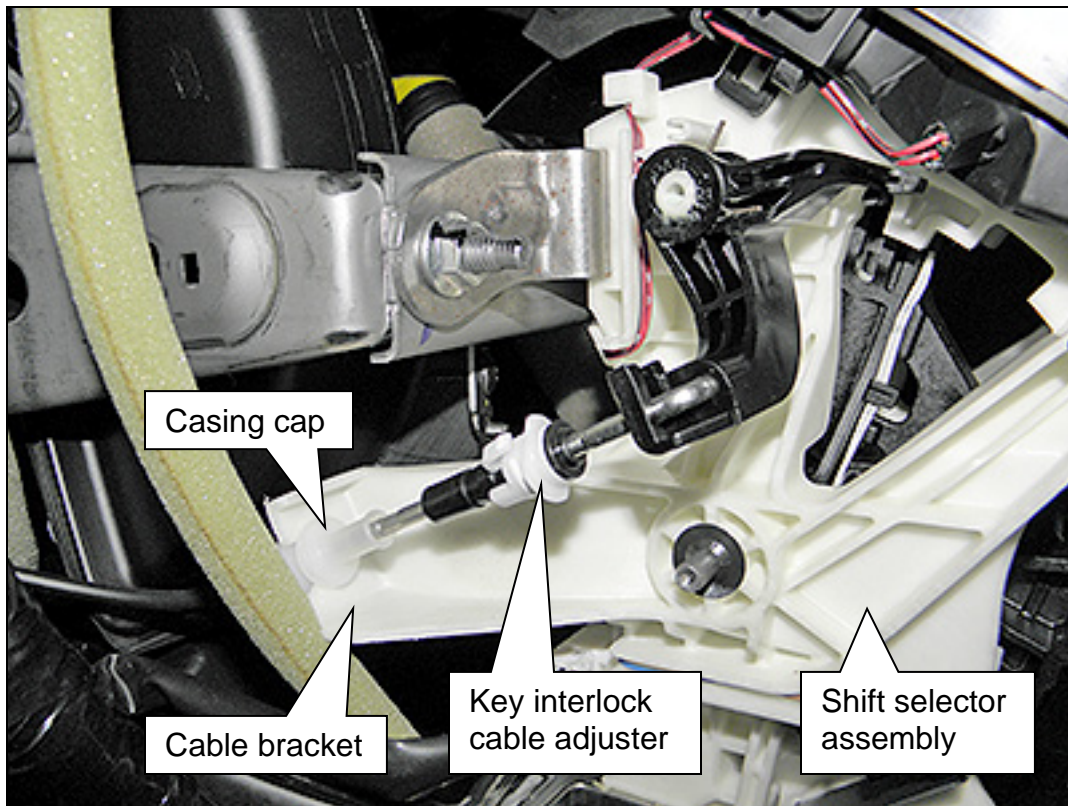

Figure 3
- Confirm that the casing cap is fastened to the cable bracket (Figure 3).